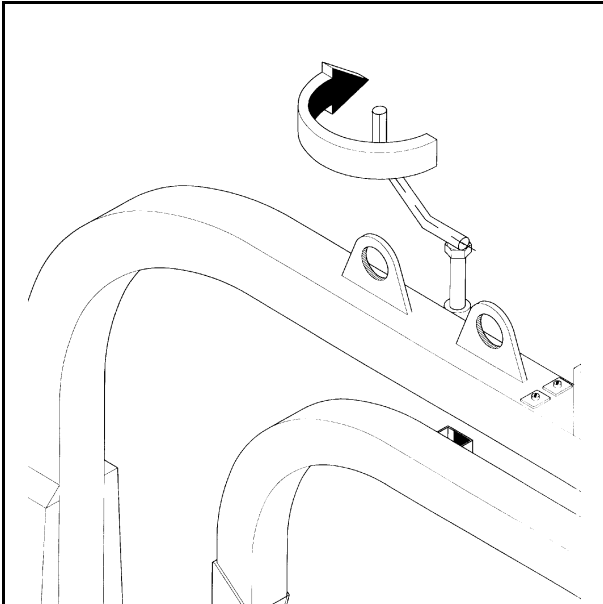

Fig. 4-14
6. Remove the locking bolt that holds the wrapping arm to the frame during transport. (Fig. 4-14 and Fig. 2-7) If necessary unfold and lock the extra wrapping arm on a TWIN machine. Do the same with the cutter beams. (See section 2.10 and figs. 2.7, 2.8, 2.9 and 2.10.)